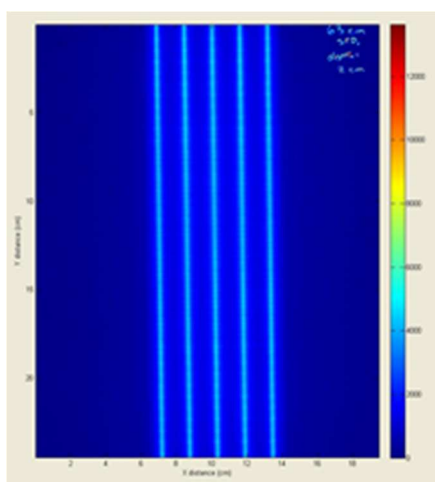
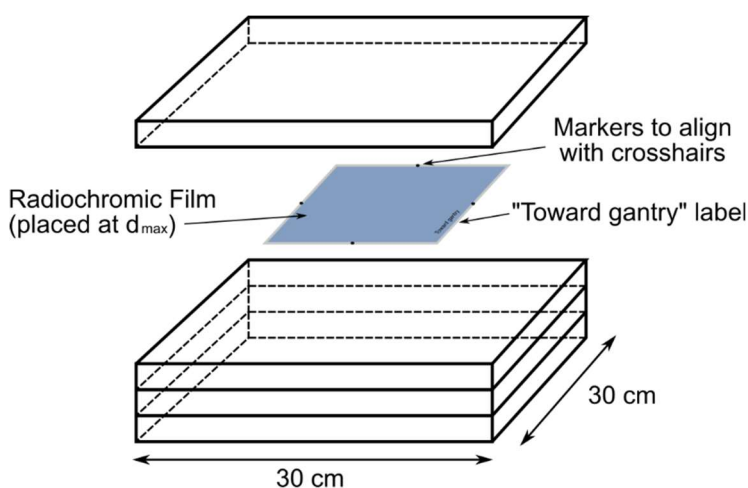

FIG. 1. An example of analysis of a scanned piece of radiochromic film irradiated with a picket fence pattern.
FIG. 2. Placement of the radiochromic film within the slab phantom.
4. Irradiate a 'picket fence' pattern (Fig. 1) onto a sheet of radiochromic film placed between the phantom slabs (Fig. 2).
A five strip 'picket fence' pattern will be created using an accelerator's MLC. Radiochromic film, sandwiched between solid slabs as shown in Fig. 2, will be irradiated with the "picket fence" pattern. The film plane should be located near  $d_{max}$ , at 100 cm SAD.